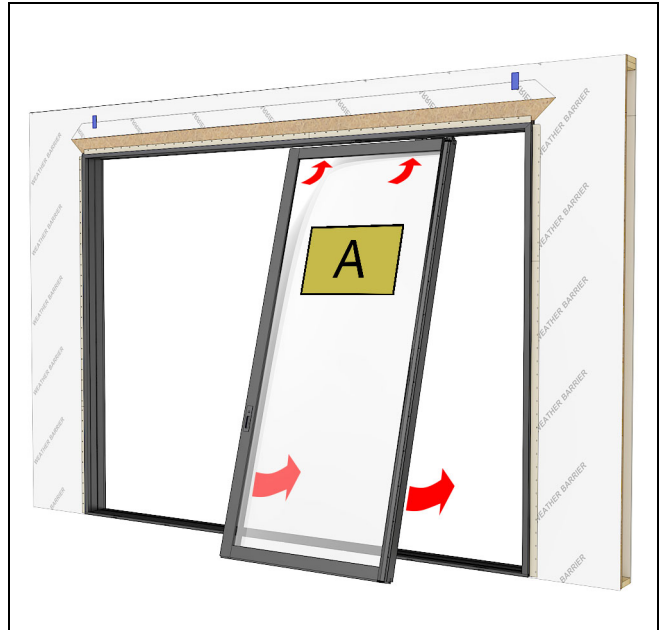

Figure 96
4. Install the operator panel (A) on the interior track. See Figure 96.